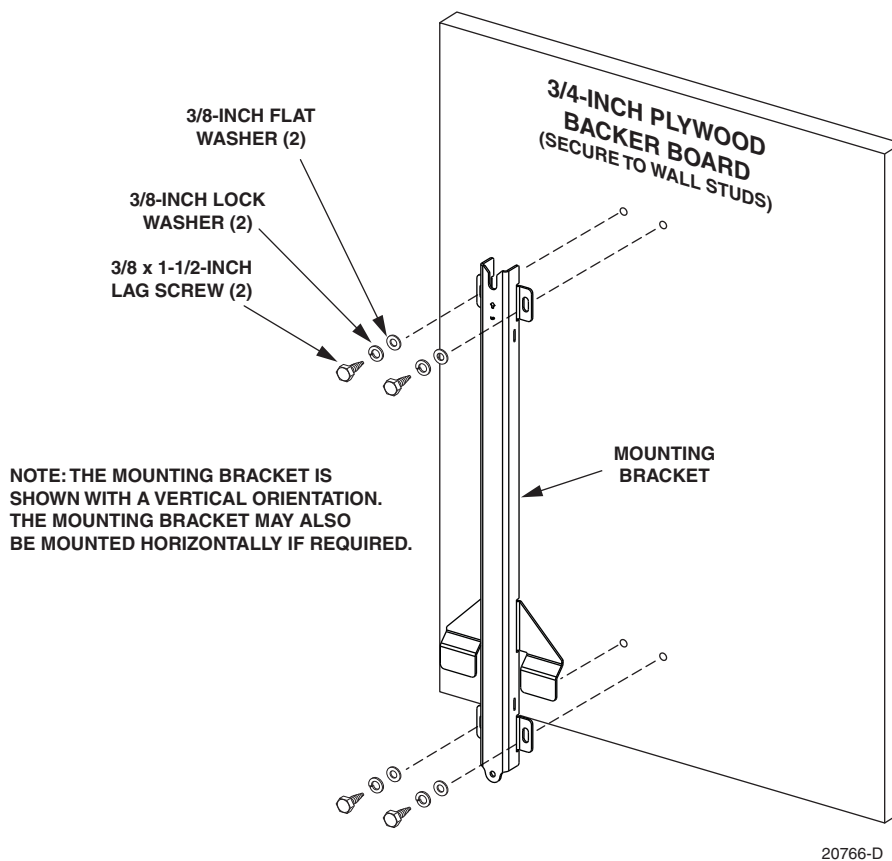

Figure 3-4: Secure Standard Mounting Bracket To a Masonry Wall
- 1 Hold the enclosure mounting bracket in position for installation on the masonry wall as shown in Figure 3-4. The end with the V-notch should be at the top.